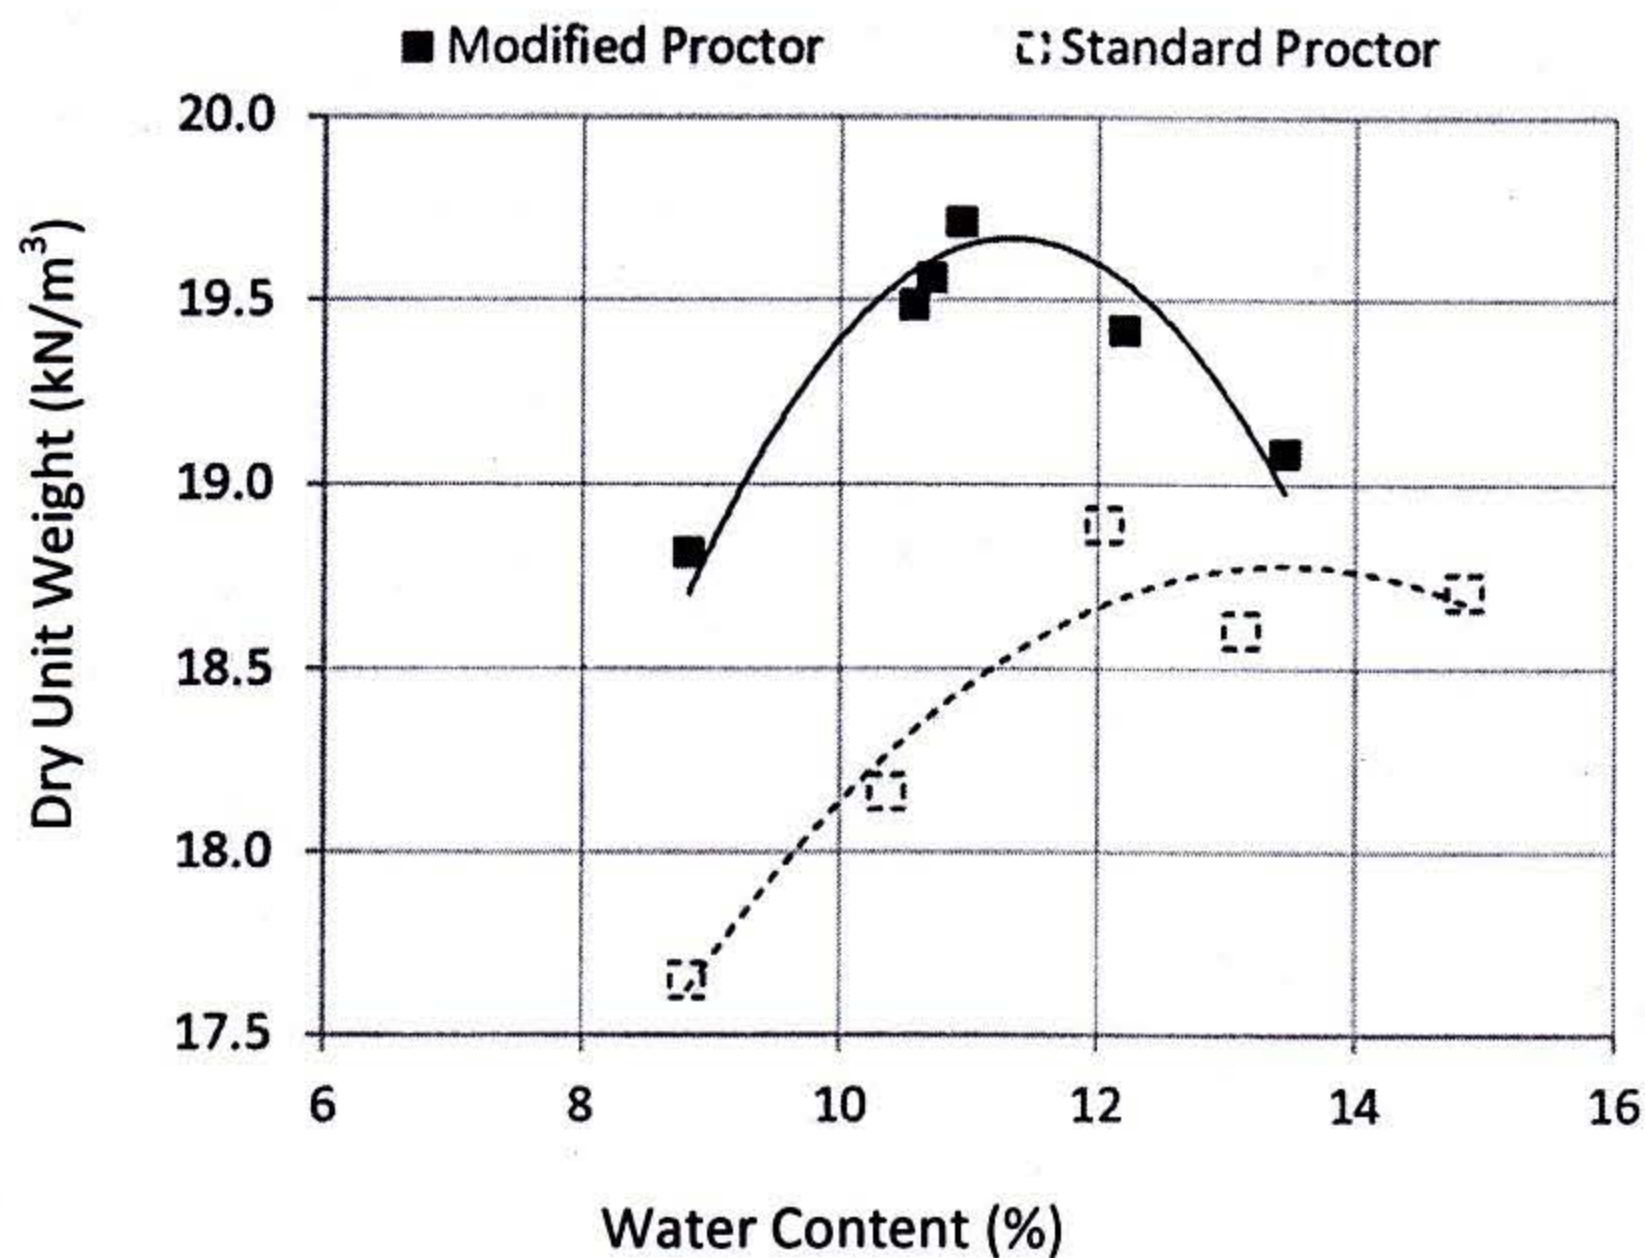

Fig. 1: Compaction Test Results
2. The results of compaction tests are given in Fig.1.
- (iii) Evaluate the change in lateral force (active condition) w.r.t. the soil condition given in Fig.1(a), if all the soil layers are cohesion-less. 4